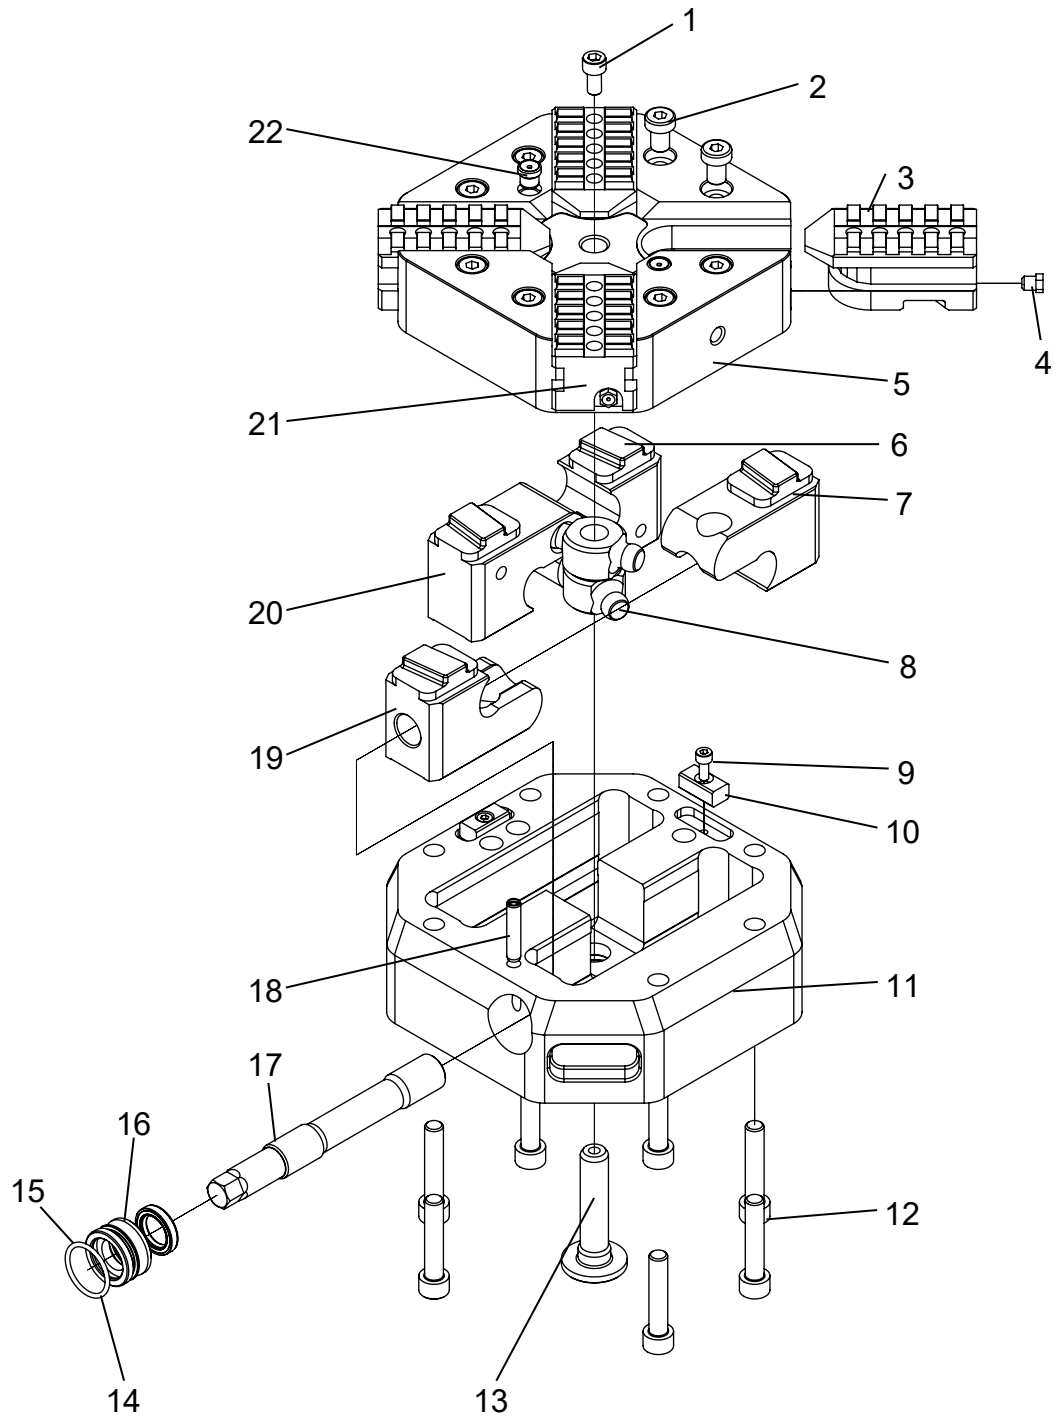

Fig. 8-1: Spare parts list InoFlex® VF016 – VF026
- Step 1** Look for the desired part in figure 8-1
- Step 1** Look for the desired part in figure 8-1.